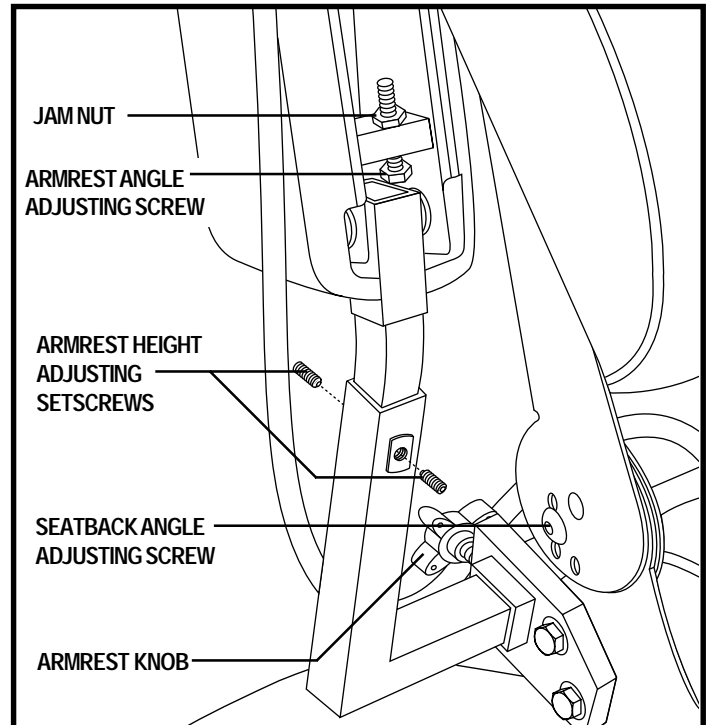

Figure 15. Seatback and Armrest Adjustments
If your power chair is equipped with an adjustable seatback, you can adjust it to four (4) different angles: 90°, 102°, 105°, or 107°. See figure 15.
1. Locate the two armrest knobs on each side of the armrest receiver bracket. See figure 15.
2. Loosen the jam nut. See figure 15.
4. Turn the adjustment screw to raise the front of the armrest or to lower the front of the armrest. See figure 15.